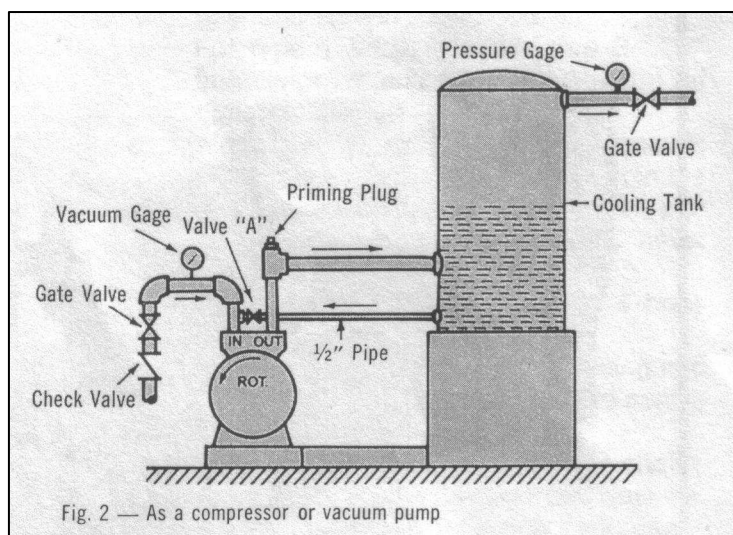

Fig. 2 — As a compressor or vacuum pump
The pump should be piped to a cooling tank as shown in Figure 2 below. This tank should have approximately a twenty (20) gallon capacity and be about half full of water. When working as a compressor or vacuum pump the flow of cooling water should be regulated by valve A. The proper setting of valve A occurs when the pressure or vacuum gauge shows its maximum reading. This arrangement provides enough cooling to dissipate the heat of compression for intermittent service. For continuous service as a compressor or vacuum pump some additional means of cooling such as a cooling coil or air fins are required.